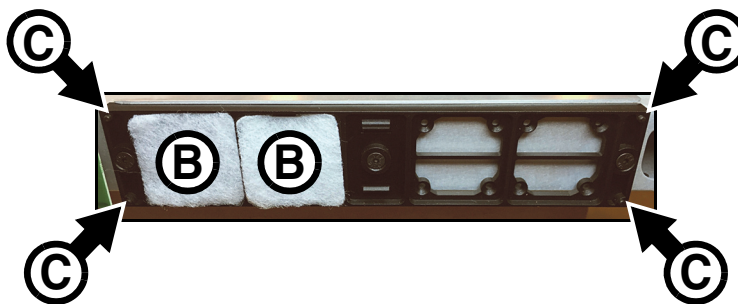

Figure 12: Replacing air filters, P3-050 / P3-150
- See Figure 12. Remove the used filters **B** and insert the new filters in their place.